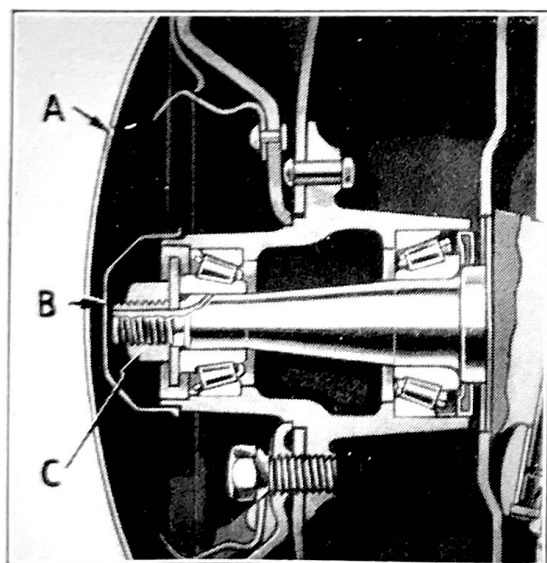

Figure 37
Remove outer and inner hub caps (A) and (B), Fig. 37. Remove cotter pin holding nut (C). Turn nut to the right until just a slight drag is felt when turning the wheel by hand. Loosen nut just sufficiently to permit wheel